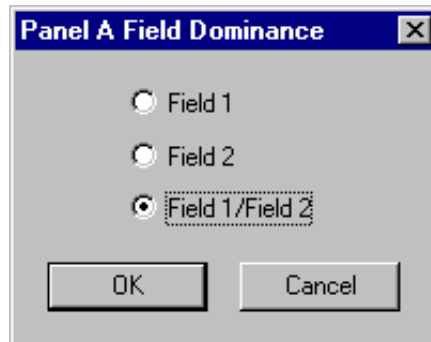

Figure 100. Field Dominance dialog box
1. Choose **Options | Field Dominance**. The Field Dominance dialog box appears (Figure 100).